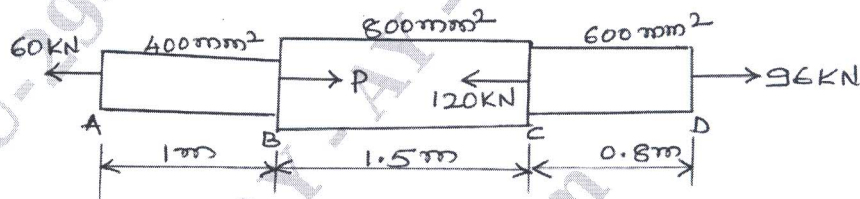

Fig.Q1(b)
- b. A steel bar ABCD of varying sections is subjected to the axial forces as show in Fig. Q1(b). Find the value of P necessary for equilibrium. If $E = 210\text{kN/mm}^2$, determine :